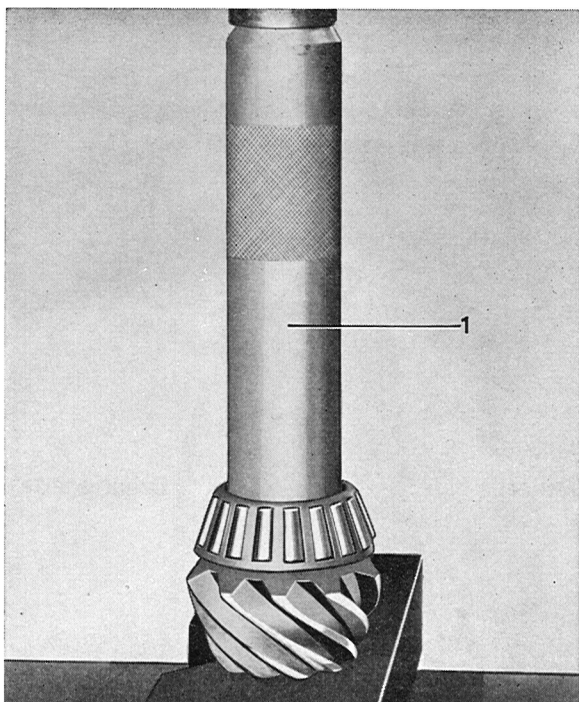

Fig. 4-172. Rear pinion bearing installation
4. Press the rear bearing on the pinion with sleeve 2395, see Fig. 4-172.